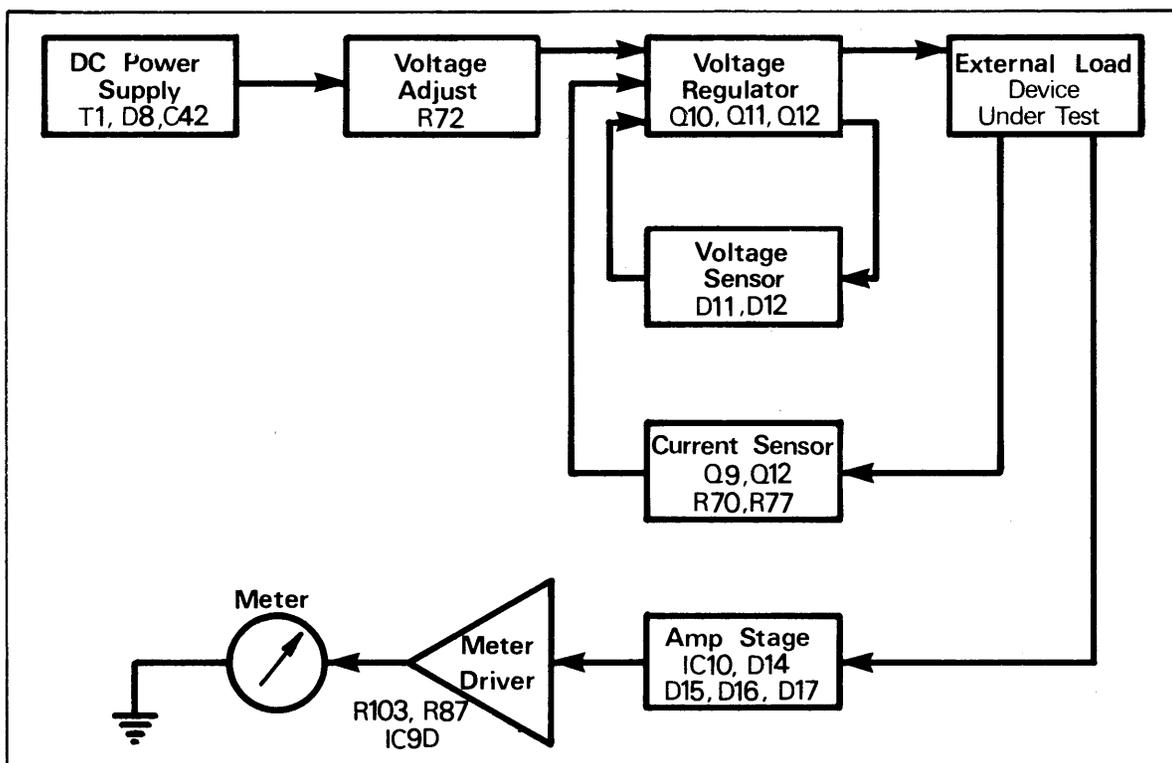

Fig. 5. Block diagram, leakage/breakdown circuitry.
- The 530 leakage/breakdown voltage circuitry uses an externally controlled DC power supply. Voltage and current sensors control automatically, via feedback, the voltage regulator that feeds the external load (See Fig. 5 and schematic).
- Taking a closer look at the leakage/breakdown voltage circuitry, refer to Fig. 5 and schematic.